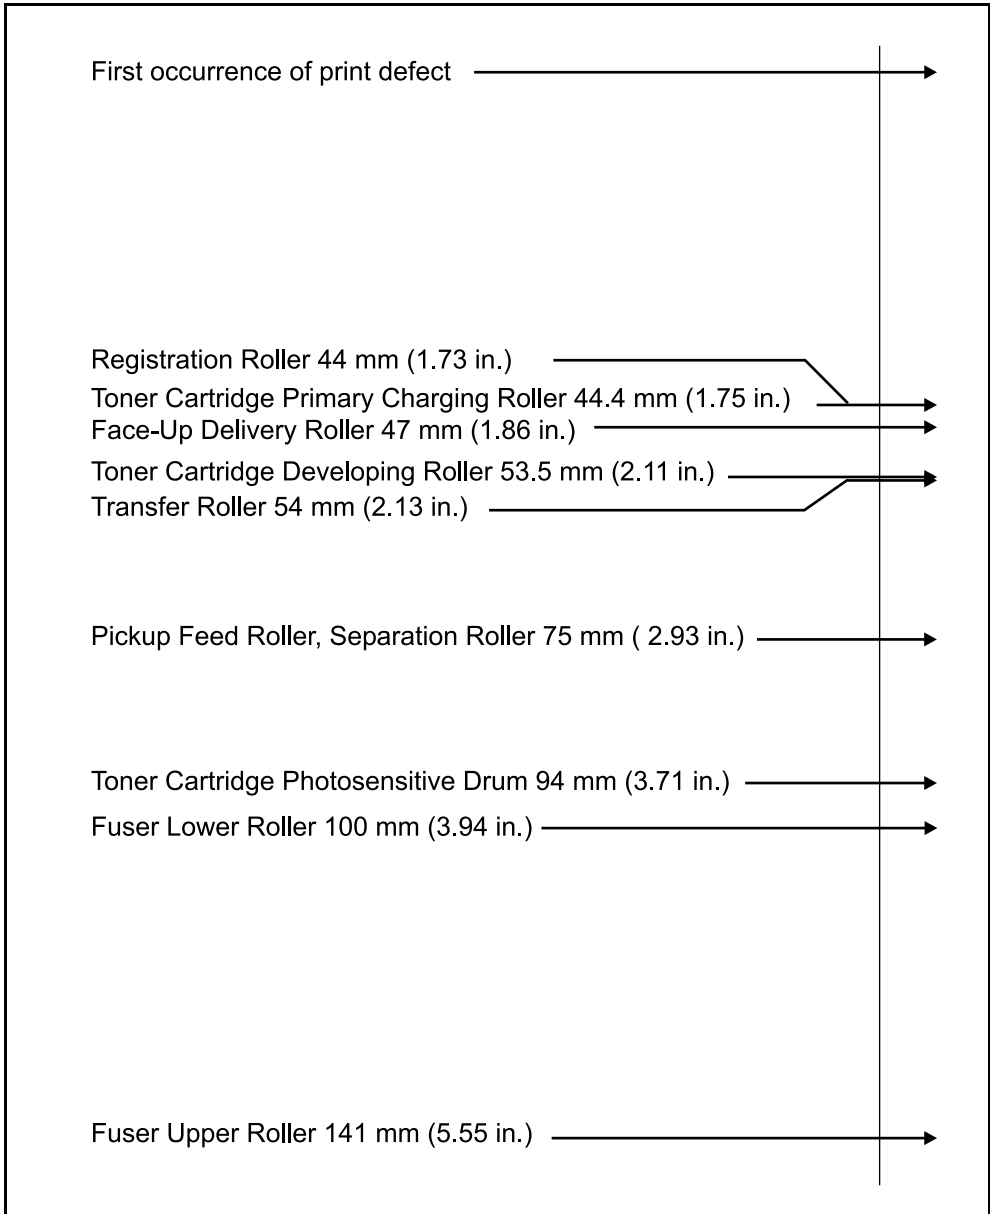

Figure 7-21 Repetitive Defect Ruler
5. Repetitive defect. If the lines are repeated at a consistent interval down the page, this is a repetitive defect.	See the Repetitive Image Defect Ruler (figure 7-21 on page 677).
1. Toner cartridge is damaged. If the defect repeats at any of the following intervals and in the direction of paper movement, it is associated with a component inside the toner cartridge. See figure 7-21 on page 677.	Inspect the drum for scratches or damage. Replace the toner cartridge. Use the Repetitive Defect Ruler, figure 7-21 on page 677.
Repetitive print defects are usually associated with a specific roller within the printer or the toner cartridge. Use figure 7-21 to isolate the cause of repetitive print defects. Align the first occurrence of the defect with the top of the “ruler” and measure to the next occurrence of the defect to determine the roller in question. When you are certain that your defect pattern matches the pattern of the ruler, replace the indicated roller.